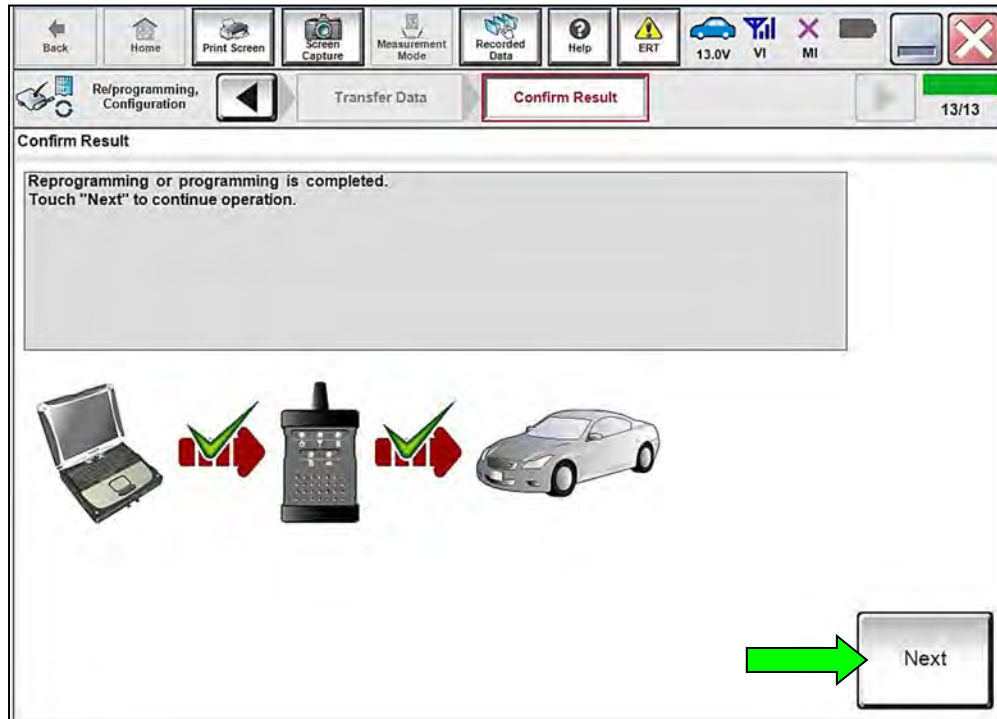

Figure 13
- If the screen in Figure 13 does not display (indicating that reprogramming did not complete), refer to the information on page 12.